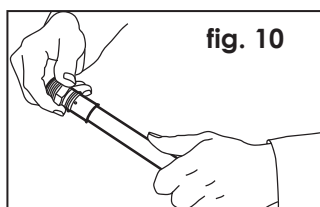

fig. 10
b) Push the fitting into the pipe as far as it will go (fig. 10); the correct insertion depth is indicated by the appearance of the pipe in the inspection window of the metal sleeve.